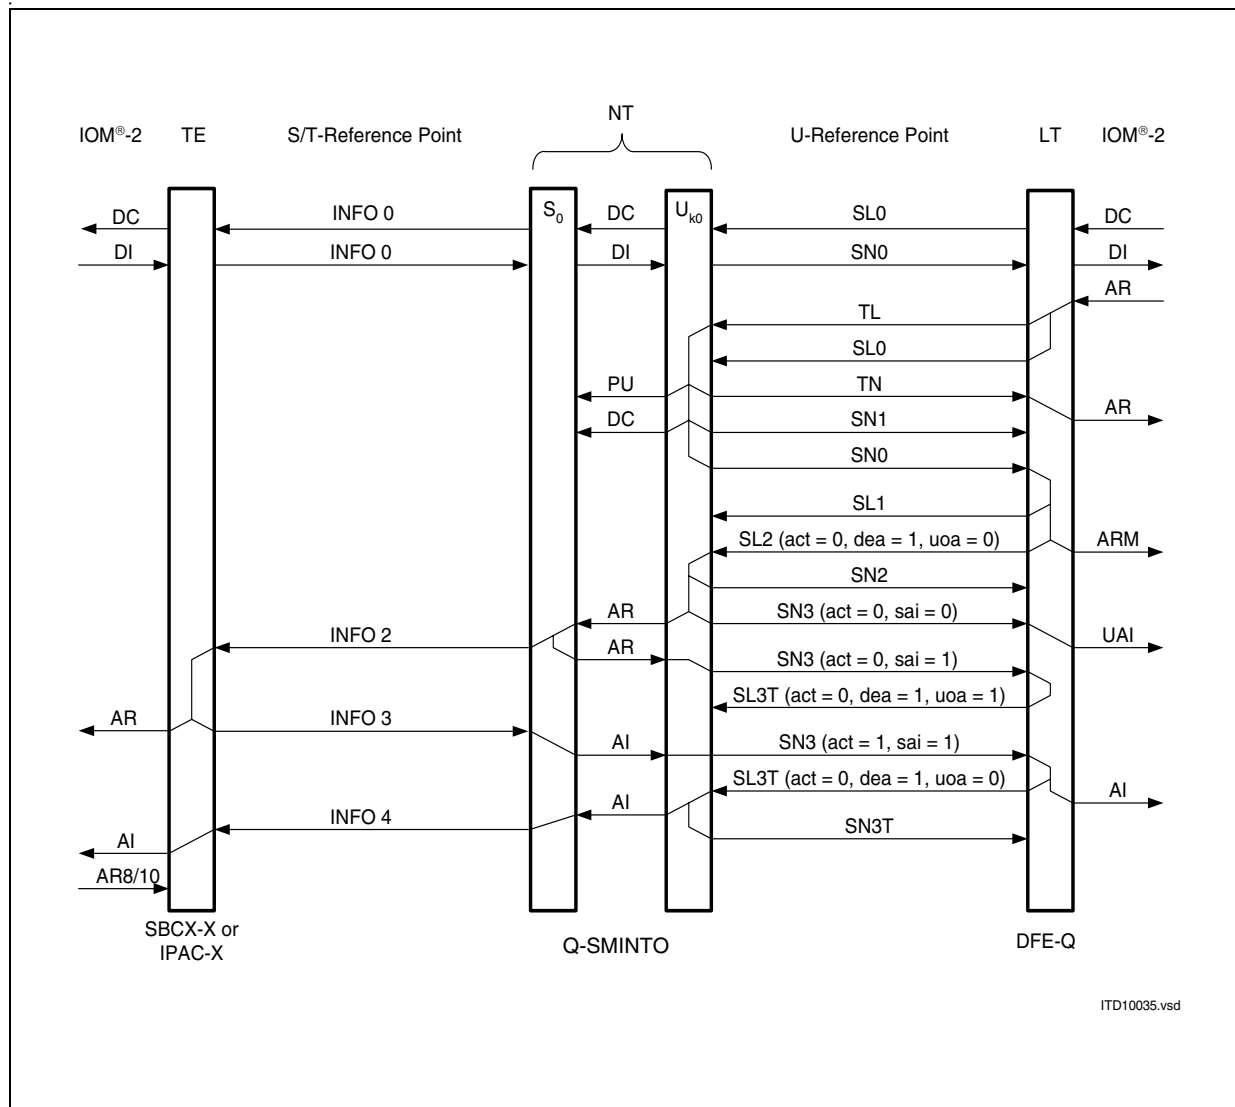

Figure 16 Complete Activation Initiated by Exchange
Figure 16 depicts the procedure if activation has been initiated by the exchange side (LT).